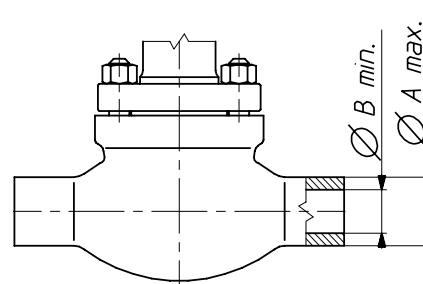
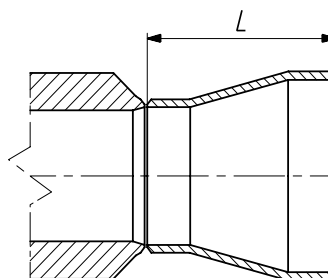

Fig. 6. Dimension of butt welding ends executed as cast
Fig. 7. Reduction stub
-) - execution with reduction stubs as per Fig. 7.
It is allowed to execute connections for other dimensions of pipes. Should pipe dimensions fall within the range ØB min / ØA max. (Fig. 6, Table 20), connection can be executed as cast. Otherwise reduction stub is to be welded to body end, which shall result in extension of housing by L or 2L size (Fig.7, Tabel 20). Other connection dimensions are allowed upon consulting with manufacturer.